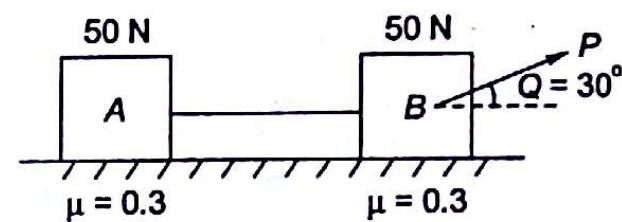

Fig. 6.26
6.6 Two blocks A and B are connected through a string. Weight of each block is 50 N. Coefficient of friction between each block and floor is 0.3. An inclined force P is applied to start sliding of the system. What is the minimum value of P required (Fig. 6.26)?